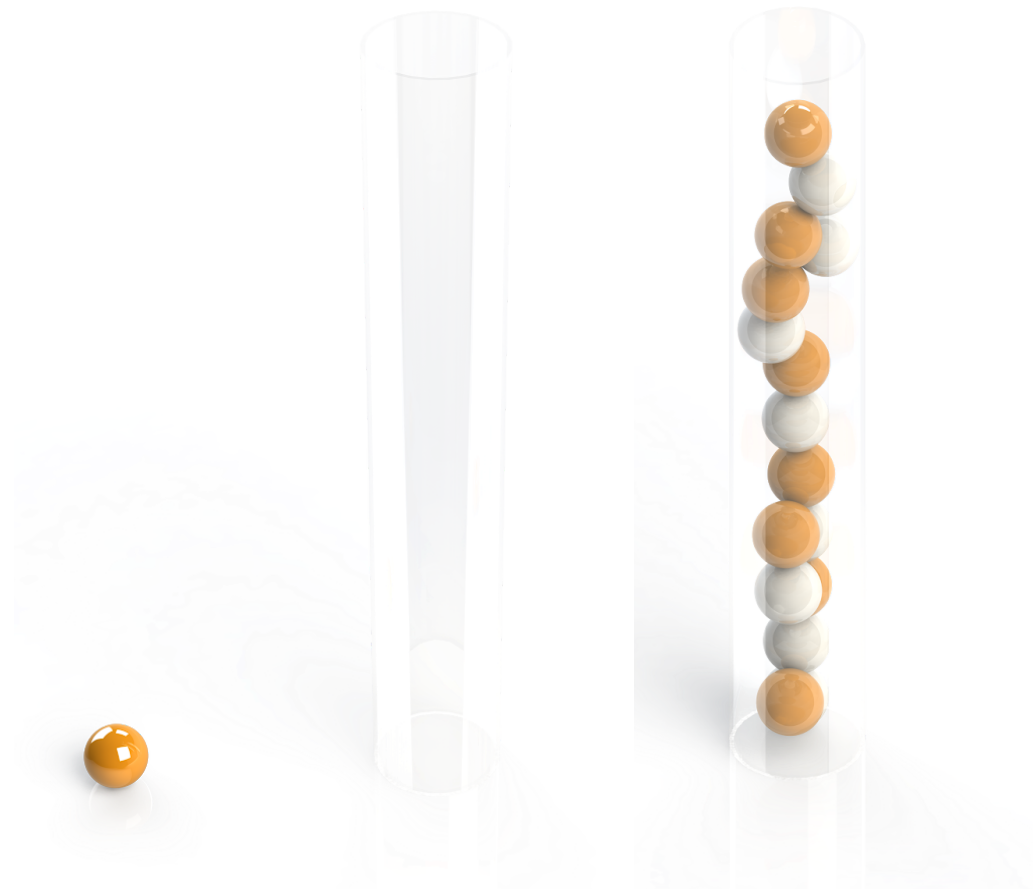

Figure 2: Left - ping-pong ball and tube, Right – Assembled tower
2. The scoring box (shown in figure 2) is split into two sections. The top of the box is open to allow depositing of scoring objects from the top. The front section, the research lab, has a front door to allow spheres to be rolled in. The rear section, the shuttle, only has a vertical loading bay for spheres.